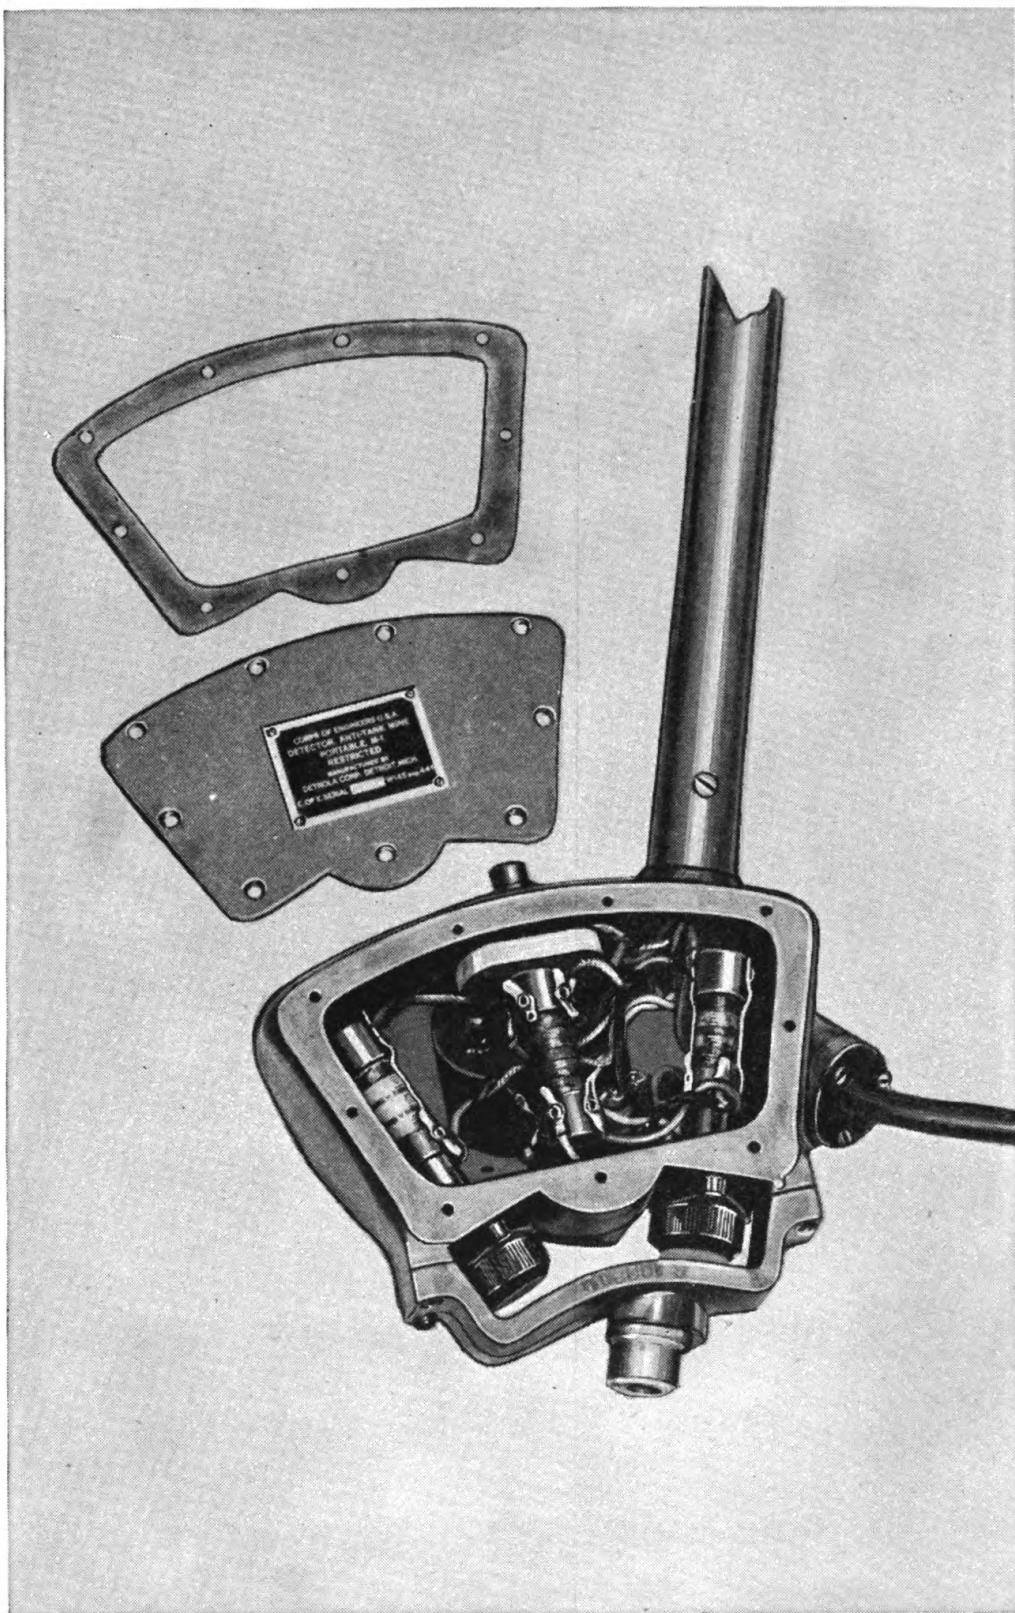
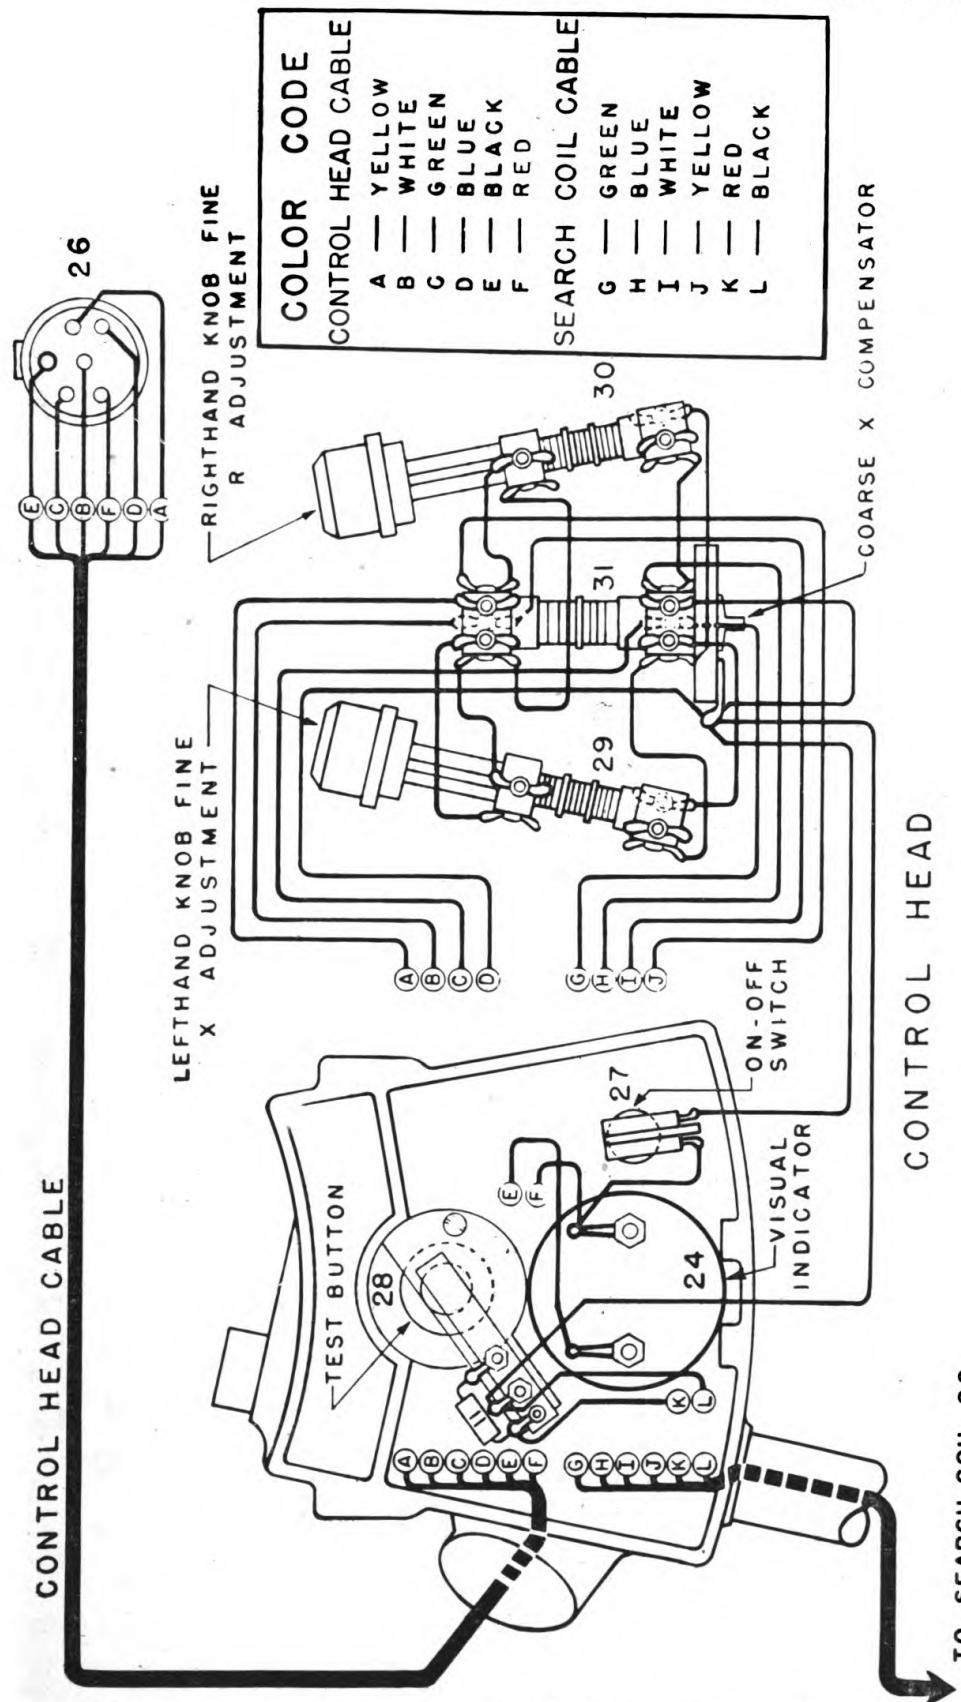

Fig. 15 Control Box BC-1140-(*), Bottom Cover Removed
Fig. 20 Control Box BC-1140-(*), Wiring Diagram
(3) Unsolder the four wires coming in through the back of the control box and going to the terminal lugs on the coil (31).
(4) Unsolder the two wires going to the terminals on switch 28.
(5) Detach the search-coil assembly from the control-box assembly by loosening thumb nut 66c on the search-coil support and unmesh the bayonet joint separating the two assemblies.
(6) Unscrew the two screws holding the metal rod that serves as the control-box extension and pull off the rod, sliding it back on the cable.
(7) This exposes the cable clamp nut which should be unscrewed, allowing the cable to be pulled out of the control box.
- (8) Slide the clamp nut, packing ring, washer, and metal rod off the cable, completing the removal of the search-coil.
- (9) Secure a new search-coil and thread the cable through the rod, starting from the end with the thumb nut (66c).
- (10) Push the cable through the clamp nut, metal washer, and packing ring and into the control box leaving about four inches of wire protruding inside.
- (11) Slide the extension rod up onto the projection of the control box and fasten in place with the two screws.
- (12) Twist together the pairs of red and black, blue and white, and yellow and green wires.
- (13) Thread the twisted wires into the control box and solder them to the terminal lugs according to the wiring diagram. (Fig. 20).
- (14) Push the coil back into place and replace the three screws.
- (15) Replace rubber gasket, bottom plate, and screws.
- b. *To replace fine "X," or fine "R" coils.*—(1) Detach bottom plate on the control box by unfastening the screws.
- (2) Detach adapter 73 from the front of the control box by removing the four screws.
- (3) Unsolder the wires from the terminal lugs of the coil.
- (4) Unfasten the screws on top and bottom of control knob and pull the assembly forward and out of the case.
- (5) Install the new coil and the gasket removed with the old coil.
- (6) Solder the four wires on the new coil according to the wiring diagram, (Fig. 20).
- (7) Replace the two screws fastening the coil to the control box.
- (8) Replace the adapter in the original position.
- (9) Replace the rubber gasket, bottom plate and screws.
- c. *To replace coarse compensator.*—(1) Detach bottom plate on the control box by unfastening screws.
- (2) Remove the three screws on the back of the control box and pull the middle coil into a vertical position.
- (3) Unsolder the wire or wires from coil, one terminal at a time, and solder them on the corresponding terminal of a new coil. This method will prevent any errors in wiring. If possible, tag each wire and its corresponding terminal.
(4) Place the coil in the control box and replace the three screws.
(5) Replace the rubber gasket, bottom plate, and screws.
d. To replace output meter.—(1) Detach bottom plate on the control box (fig. 15) by unfastening screws.
(2) Remove the two terminal lugs on the back of the meter, by removing the nuts and lockwashers.
(3) Remove the front cover (72) on the control box by unfastening the four screws around its edge.